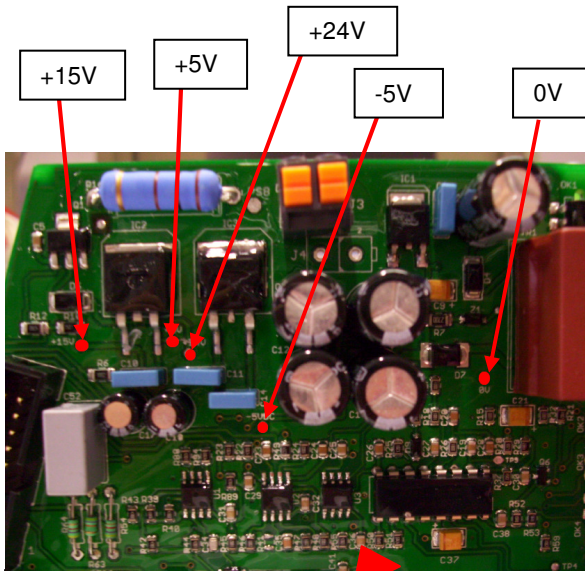

Figure 1B
8. Check for auxiliary power supply: +24Vdc,+15Vdc, +5Vdc, -5Vdc (all +/- 15%) between common 0V test point reference and dedicated test points, see **Figure 1B**